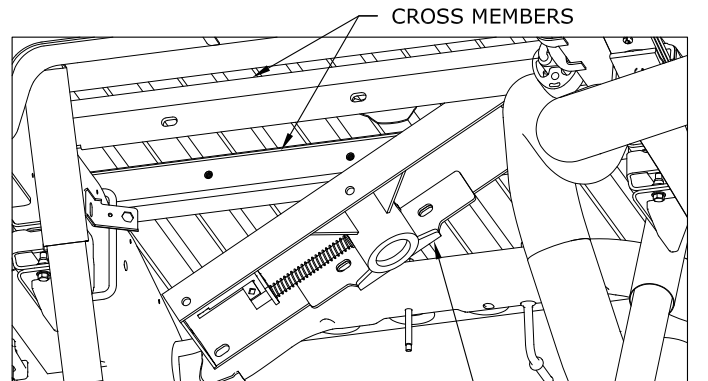
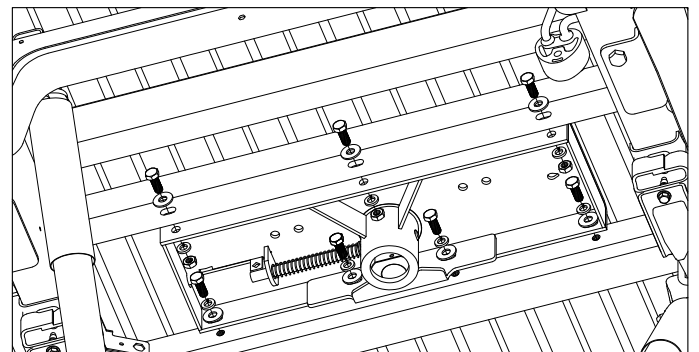

Figure B5: View under bed looking at area above axle.
Figure B6: View under bed of hardware assembly.
2. **Install Center Section.** Install the center section with the latch pin on the driver side. Raise the center section over the differential while sliding the center section over the exhaust and guiding the raised 4" circle on top of the center into the 4" hole in the truck bed floor, See figure B5. Move rear cross member forward against the center section. Place a 1/2" flat washer on a 1/2" X 1 1/2" hex cap screw. Insert the cap screw through the rear cross member and center section, securing it with a 1/2" lock washer, and a 1/2" finish nut. Thread a 1/2" X 1 1/2" hex cap screw with a 1/2" lock washer and a 1/2" flat washer into the front cross member from the inside of the center section, See figure B6. (Do not tighten hardware at this time)